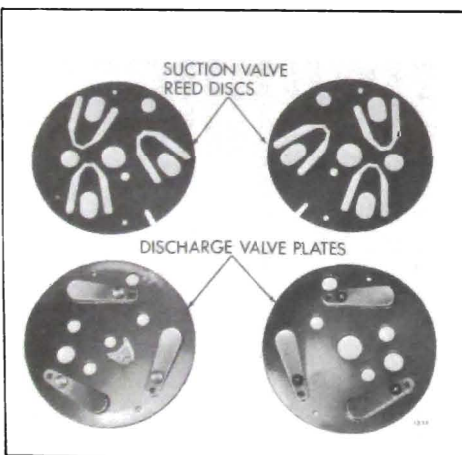

Figure 13-28 Compressor Suction Valve Reed Discs and Discharge Valve Plates
1. Suction Valve Reed Discs and Discharge Valve Plates - The two suction valve reed discs and two discharge valve plates (see Figure 13-28) operate in a similar but opposite manner. The discs are composed of three reeds and function to open when the pistons are on the intake portion of their stroke (downstroke), and close on the compression stroke. The reeds allow low pressure gas to enter the cylinders. The discharge valve plates also have three reeds, however, they function to open when the pistons are on the compression portion of their stroke (upstroke), and close on the intake stroke. High pressure gas exits from the discharge ports in the discharge valve plate. Three retainers riveted directly above the reeds on the valve plate serve to limit the opening of the reeds on the compression stroke.